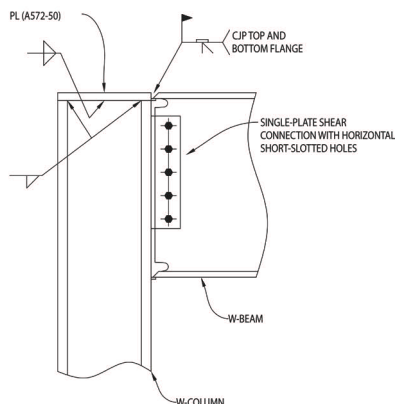

Figure 5. Directly Welded Moment Connection at Top of Column
28. When a directly welded moment connection is made at the top of the column in lieu of welding a beam top flange to the column flange and providing two stiffeners between column flanges, make one cap plate and weld the top flange directly to this plate (see **Figure 5**).